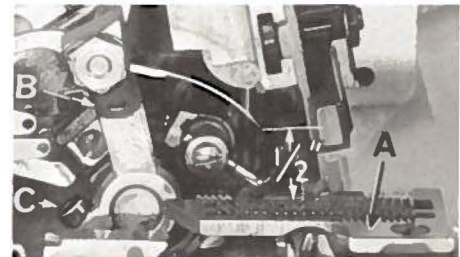

Fig. 3
With throat plate assembled in position, needle should center in the front end of needle slot. When needle is at high position, needle point should be set $\frac{1}{2}$ inch above throat plate (A, Fig. 3). To align needle or set the height above throat plate, move needle driving arm (B) by loosening clamp screw (C). After needle has been properly set, tighten clamp screw and remove throat plate.